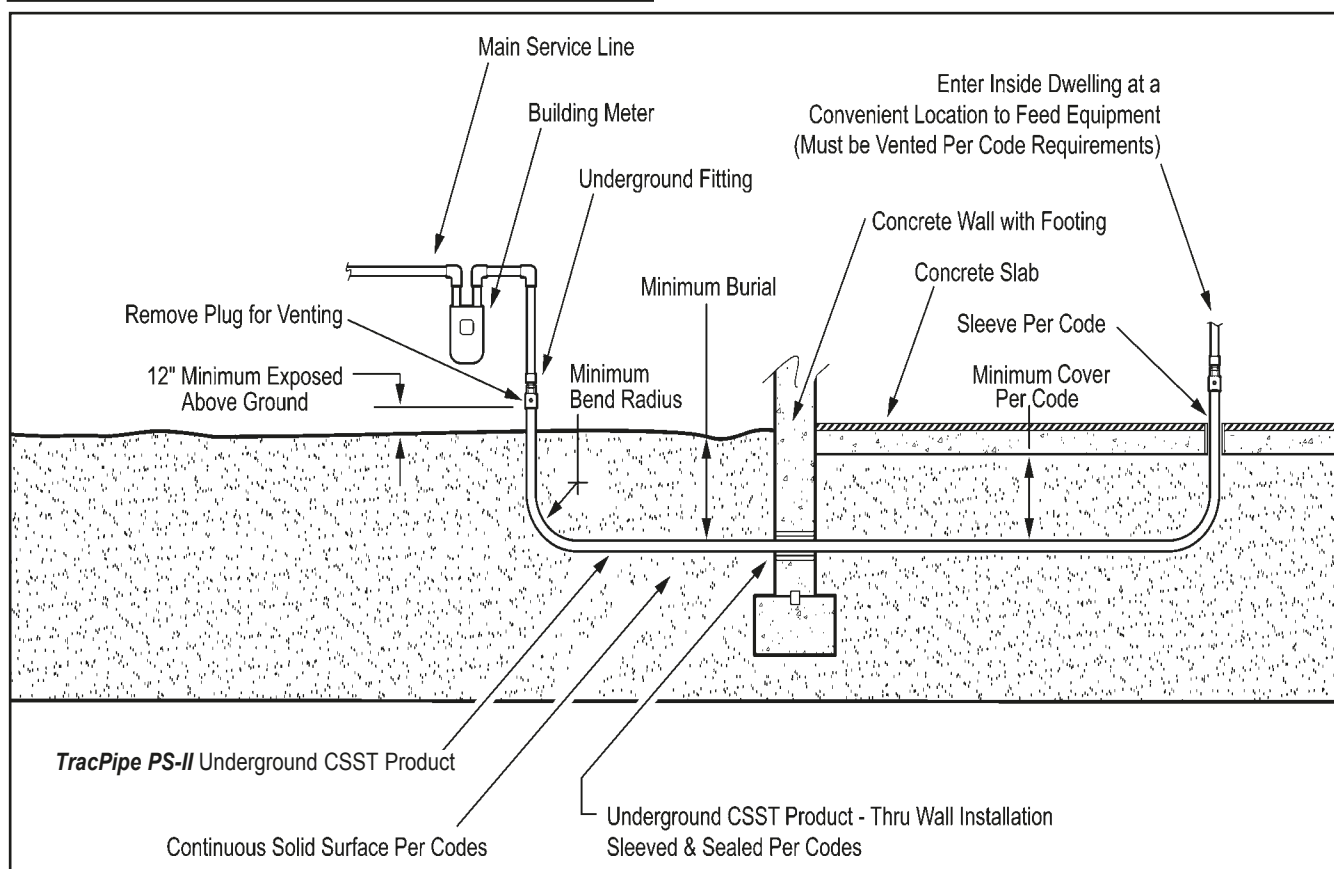

Figure: 4-24
2. When transitioning *TracPipe PS-II* from below grade or above the floor, use the recommended minimum bend radius as depicted in Figure: 4-24 and shown in Table: 4.8.